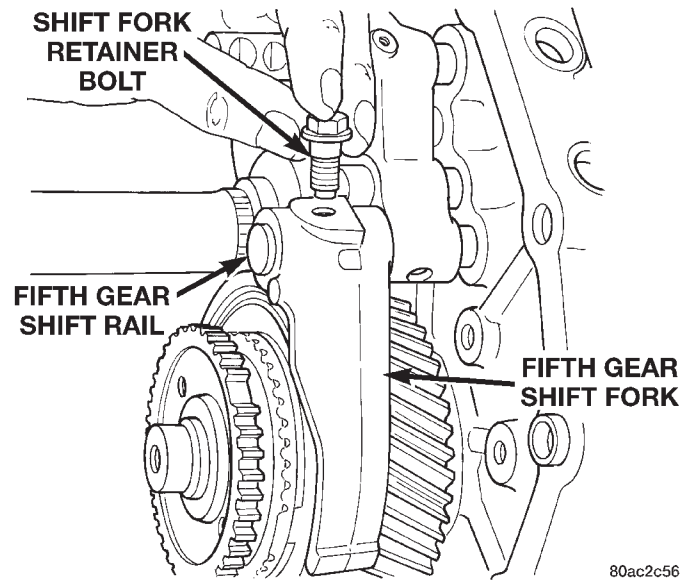

Fig. 95 Install Fifth Gear Retainer Bolt
(46) Using a suitable mallet and spacer, tap the fifth gear blocker ring onto the countershaft.
(47) Install new bolt to hold fifth gear shift fork to the fifth gear shift rail (Fig. 95).